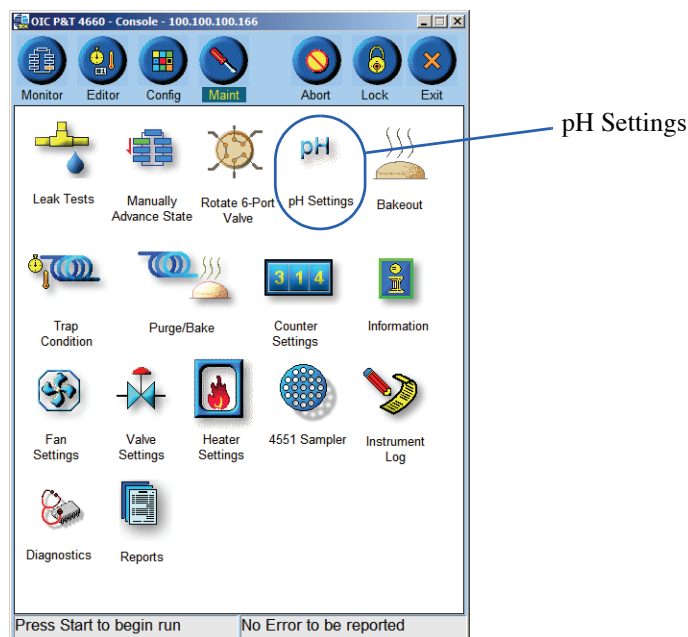
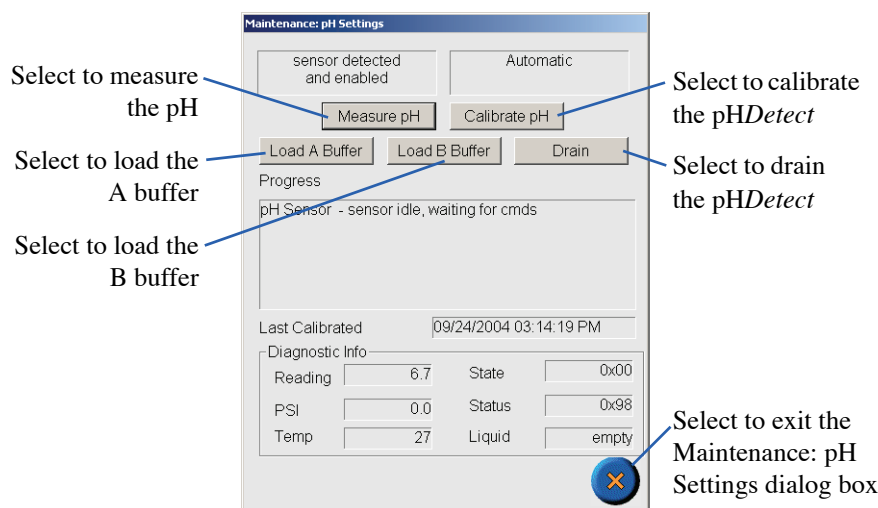

Figure 7.7. Maintenance screen
Figure 7.8. Maintenance: pH Settings dialog box
The Maintenance screen contains diagnostic and maintenance tools for the pHDetect module (Figure 7.7).
1. Press the **pH Settings** icon from the Maintenance screen (see Figure 7.7) to access the Maintenance: pH Settings dialog box as shown in Figure 7.8.
To prevent the pHDetect module from automatically calibrating during the PURGE state, set the frequency of “Calibrate Automatic unit” to every 12 months (or any long period of time); calibrate before the beginning of each sequence by pressing the **Calibrate pH** button in the Maintenance: pH Settings dialog box (see Figure 7.8).